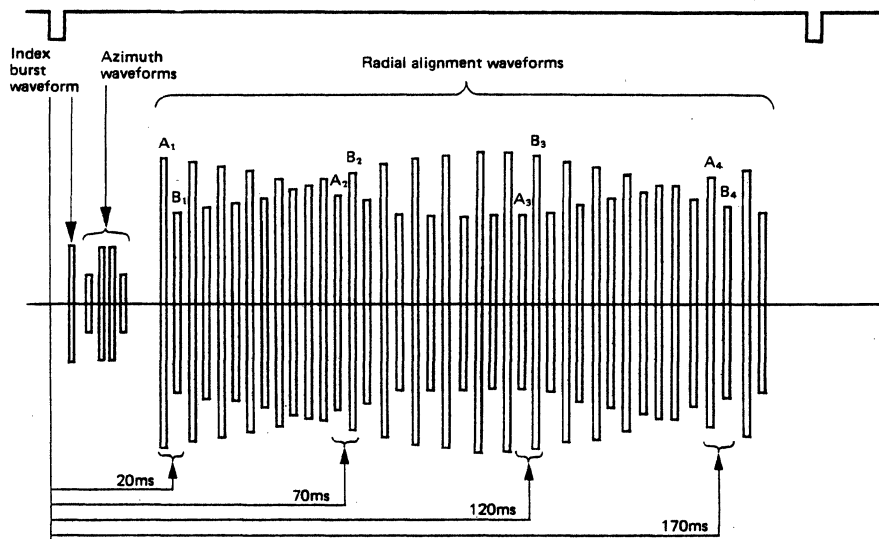

Fig. 9.3 Alignment Waveform (DAD)
- (4) Watch the output waveforms for sides 0 and 1. They should appear as shown in Fig. 9.3.
- (5) Measure the timing levels A1 to A4 and B1 to B4 in Fig. 9.3, and calculate the lobe ratio from the following formulas.